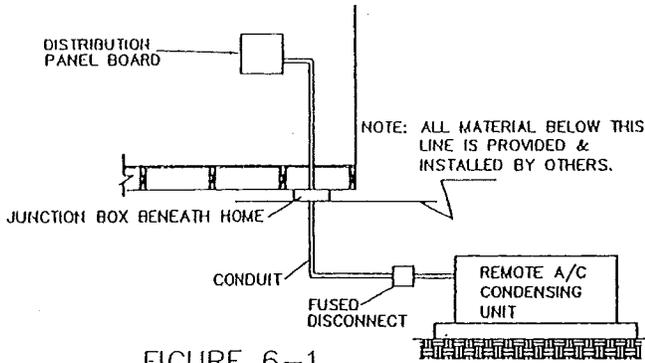

FIGURE 6-1
**6-4.1** Branch circuits installed at the factory for the purpose of energizing air conditioning or heat pump equipment will have a junction box located on the bottom side of the home. A data plate will be placed on the side of the home adjacent to this box outlining the maximum full load ampere draw for the indicated branch circuit. In installing air conditioning or heat pump equipment, do not exceed the indicated circuit rating. See Figure 6-1.